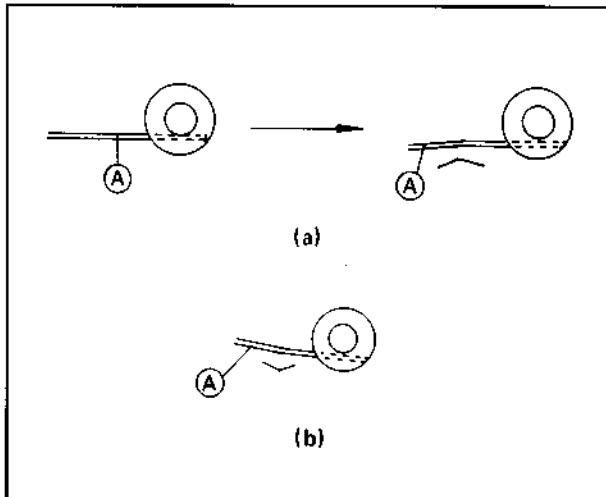

Fig. 5-10
6. If the measured supply loading back tension is greater than 50 grams, slightly and carefully bend the supply loading idler lever at point A as shown in Fig. 5-10(a).
7. If the measured supply loading tension is less than 40 grams, bend the supply loading lever at point A as shown in Fig. 5-10(b).